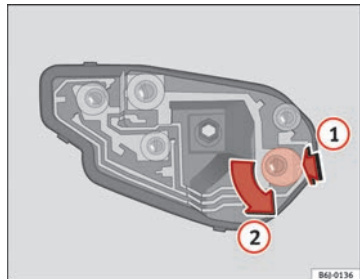

Fig. 164 Changing bulbs on tail lights
- Once the bulb holder has been removed, press downwards in the direction of the arrow (1) and at the same time, turn in the direction of the arrow (2) ⇒ fig. 164.